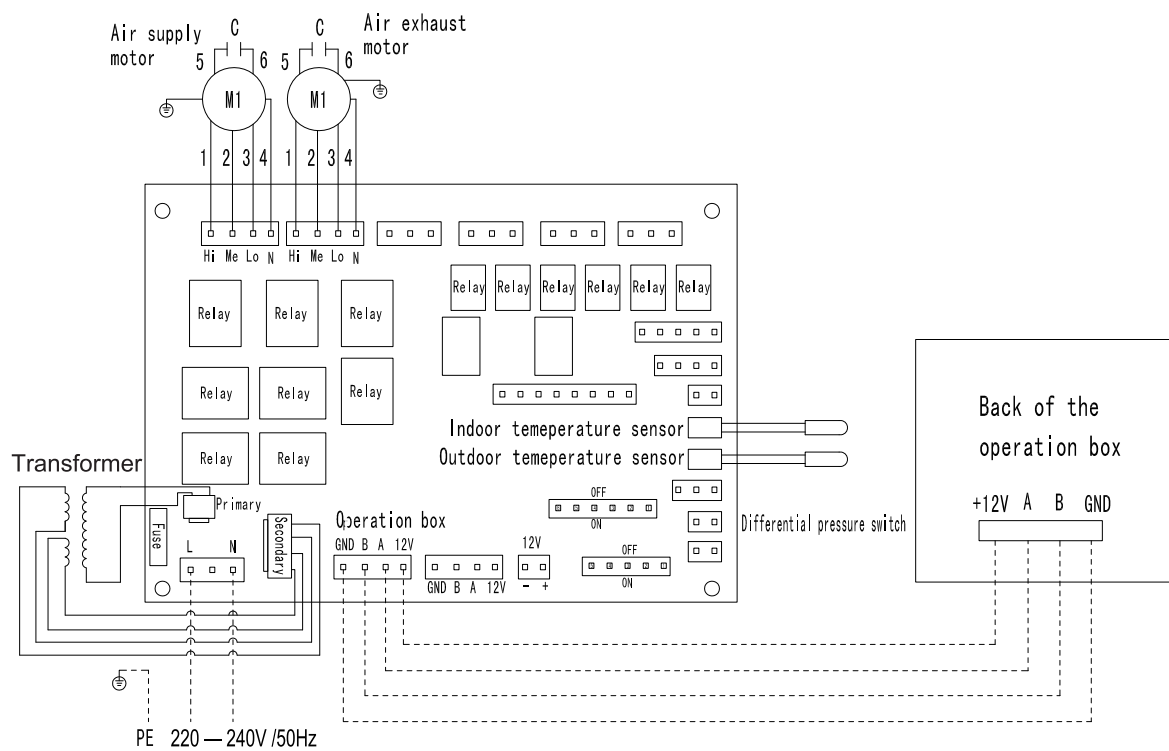

Fig. 4.8 Single-phase circuit connection diagram (HKF-15B1EC ~ HKF-100B1EC)
- (1) Connect power line with terminal board inside KPI electrical box. Connect grounding line with the grounding bolt inside KPI electrical box by referring to Fig. 4.8 and 4.9.